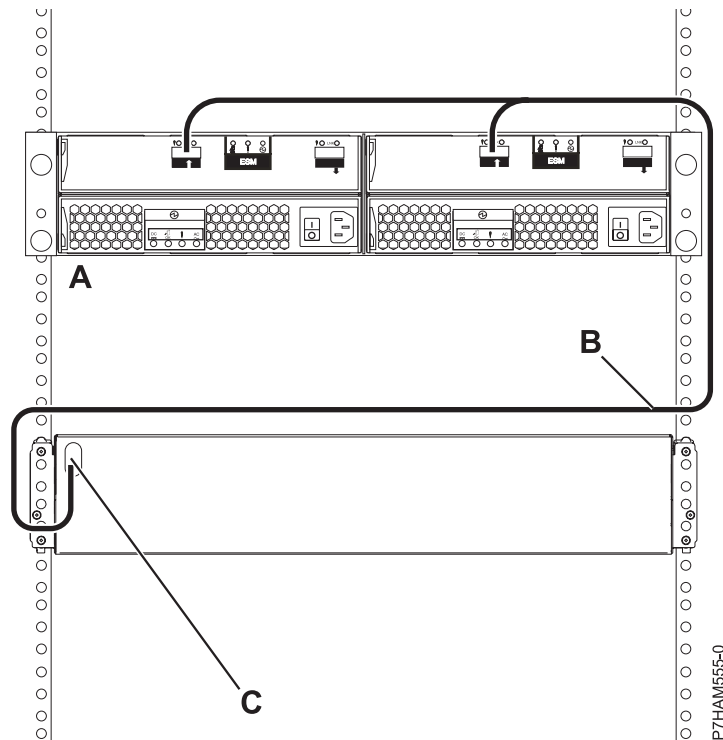

Figure 13. Connection of one 58/86 disk drive enclosure by using a YI cable to a system with support for a single SAS drawer
- h. Perform the connection of one 58/86 disk drive enclosure (A) by using a YI cable (B) to a system with support for a single SAS drawer (C) as shown in Figure 13 on page 13.